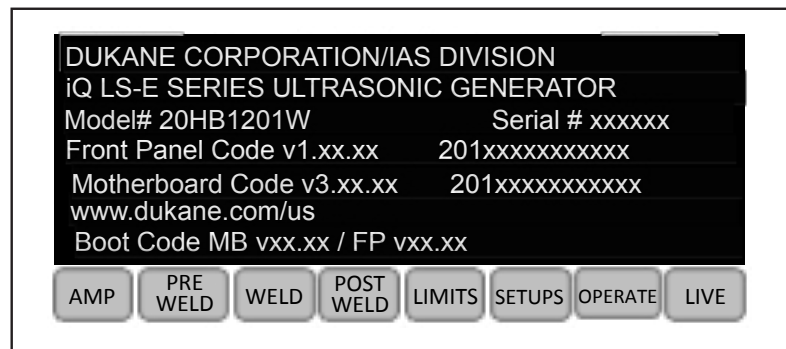

Figure 6-2 Start-up Sequence 1 - INFO Screen
3. First, a short beep is given. Then the image on the screen identifies the Dukane generator. (This is the same information that displays when INFO is pressed.) See Figure 6-2.